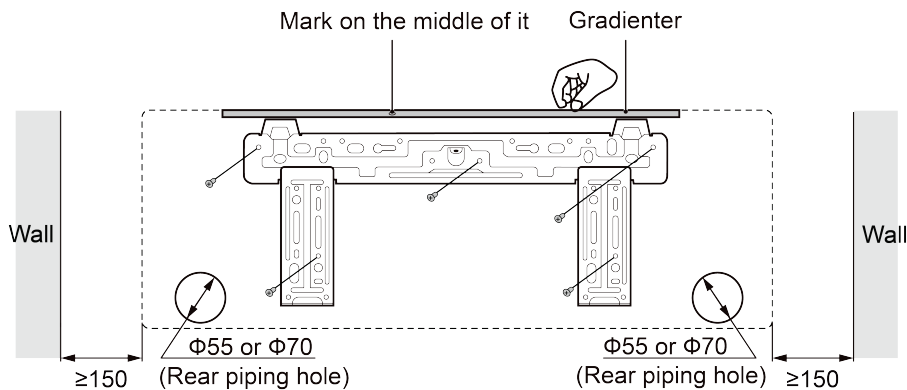

Fig. 4.2
- (1) Find the horizontal position by the seton method; since the drainage pipe is on the left side, it is necessary to adjust the rear panel to make its left side a little bit lower.
- (2) Fix the rear panel on the wall by bolts.
- (3) After installing the rear panel, pull it by hands to check if it is secured enough. The hang panel should support the weight of an adult (60kg), and the weight shared by every bolt should be fairly even.
- (4) The diameter showed in Fig. 4.2 is 55mm(2-3/16inch) or 70mm(2-3/4inch).
- (1) Make the piping hole (55mm(2-3/16inch) or 70mm(2-3/4inch)) in the wall at a slight downward slant to the outdoor side. The center of the hole should be determined referring to Fig. 4.2.
- (2) Insert the piping-hole sleeve into the hole to prevent the connected piping and wiring from being damaged when passing through the hole.